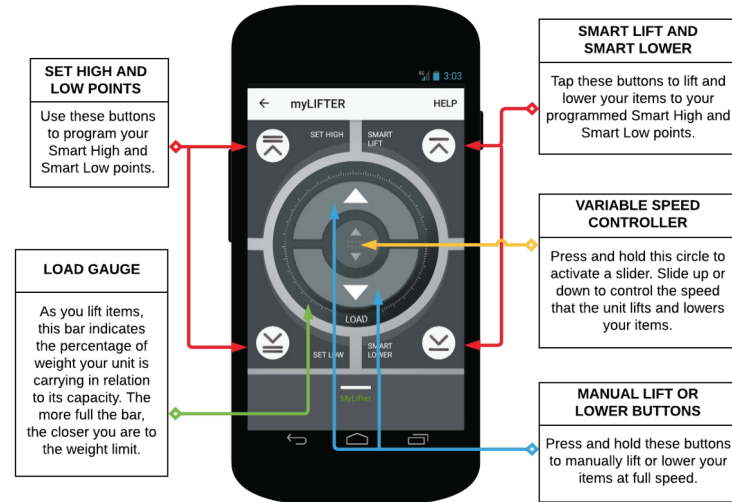

Fig 6.3
4. This is a good time to set the Low "Smart Point". Refer to the MyLifter Manual for App instructions. NOTE: Smart Points make it easy to raise and lower the hardtop to specific high and low locations with the touch of a button. (Fig 6.3)